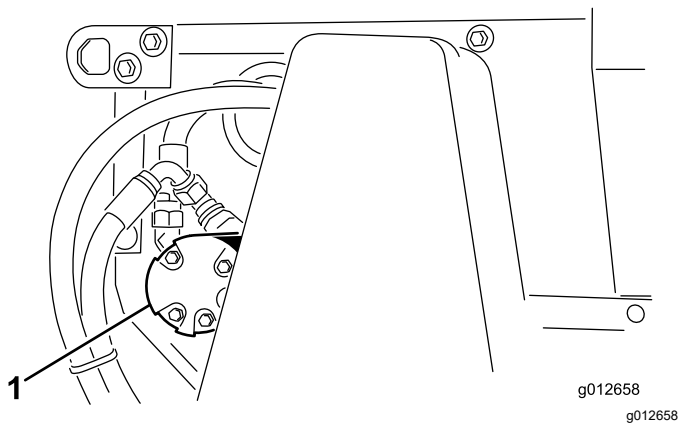

Figure 41
2. Loosen nuts that secure the brush motor (Figure 41) to left side of machine.